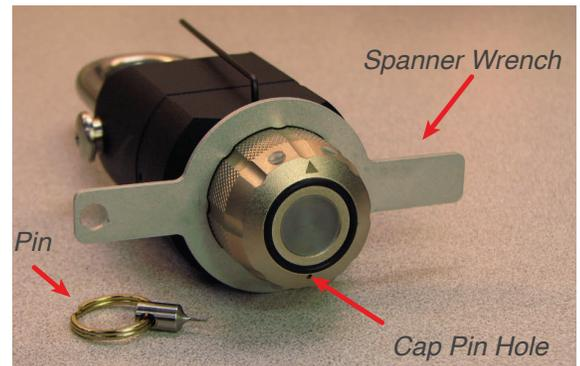

Figure 2: Cap Pin Hole, Pin and Spanner Wrench
4. Slide the provided spanner wrench over the cap as shown in Figure 2.
5. While maintaining pressure on the Allen wrench, insert the provided pin into the pin hole on the front face of the cap and push it in until the pin stops. See Figure 2 and 3.